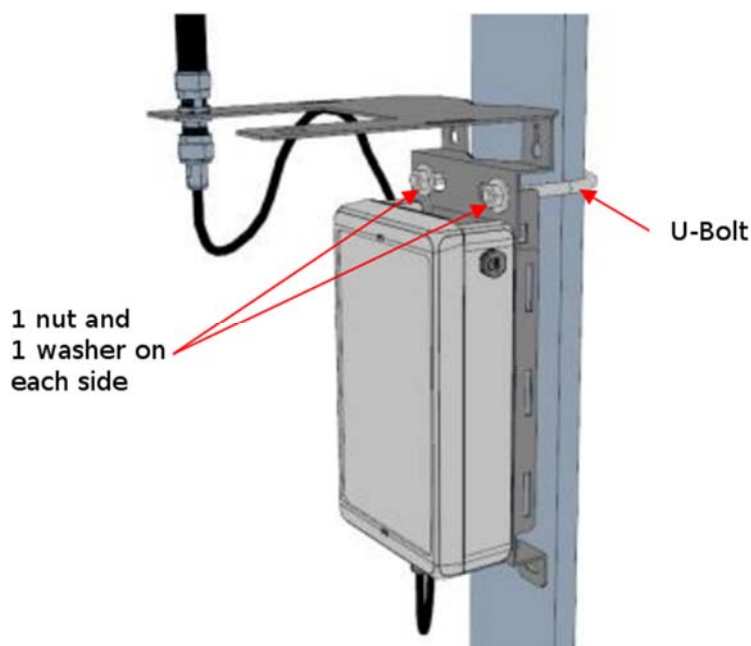

Figure 19: Gateway mounted on a pole.
- Pole mounting by U-bolt (Figure 19)